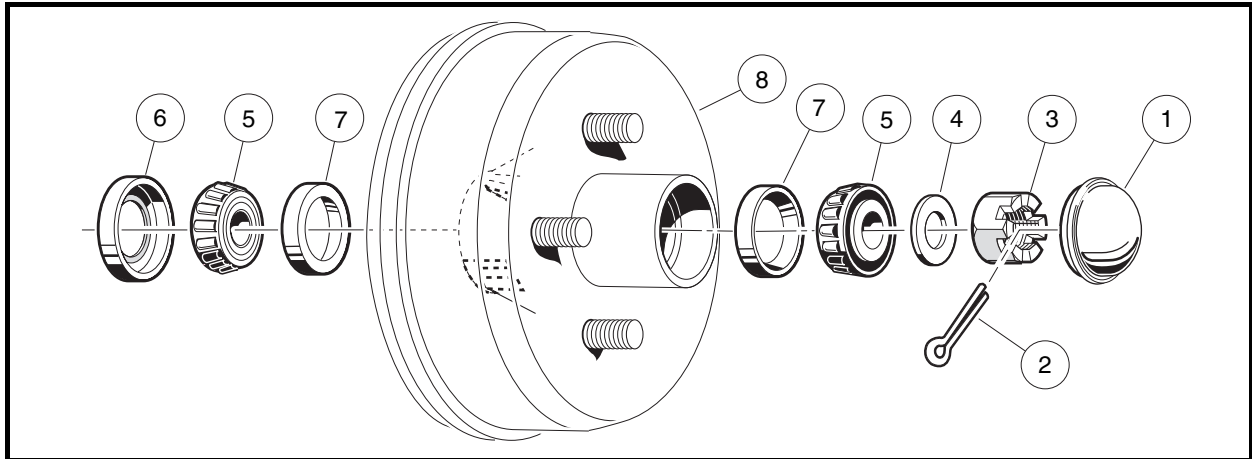

Figure 7-31 Front Wheel Bearings and Hub
3. Rock the wheel and hub assembly back and forth on the spindle. If there is any observable movement of the wheel and hub on the spindle, remove dust cap (1) and cotter pin (2) and then tighten the spindle nut (3) until both bearings (5) fully seat in the bearing cups (7) (**Figure 7-31, Page 7-19**).
5. Install a new cotter pin (2). If movement continues, replace the wheel bearings (5) as required.